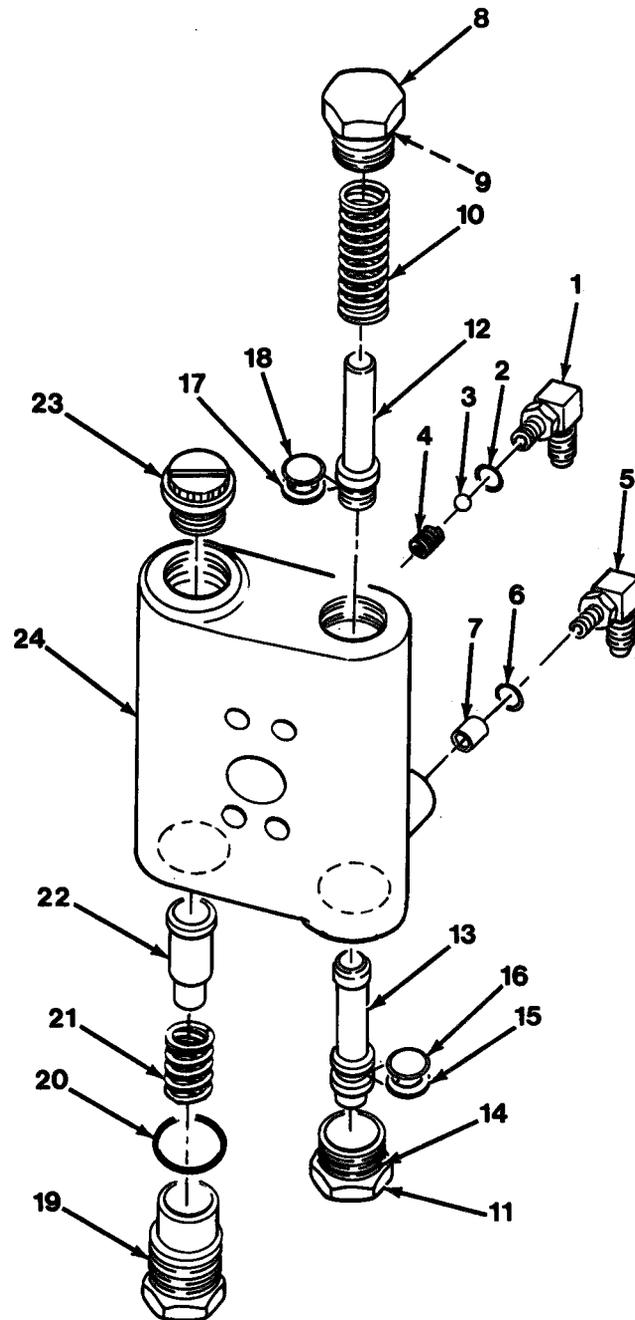

Figure 16-1
1. Remove elbow (1), O-ring (2), ball (3) and spring (4) from housing (24, Figure 16-1).
2. Remove elbow (5), O-ring (6) and pilot orifice (7) from housing (24).
3. Remove spring retainer (8), O-ring (9) and spring (10).
4. Remove cap plug (11), damper piston (12) and spool (13) as a unit from housing (24). Remove O-ring (14) from cap plug (11).
5. Remove back-up ring (15) and O-ring (16) from spool (13, Figure 16-1).
6. Separate damper piston (12) from spool (13),
7. Remove back-up ring (17) and O-ring (18) from damper piston (12).
8. Remove spring retainer (19), O-ring (20), spring (21), check valve poppet (22) and plug (23) from housing (24).